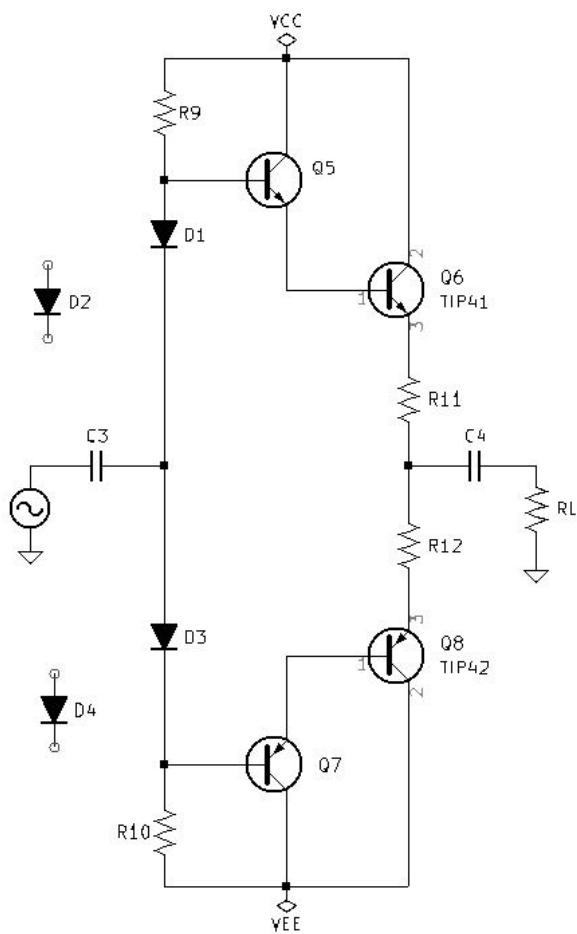

Figure 5.2: Push Pull Amplifier Cross-Over Distortion Test Circuit.
- (b) Build your calculated Push-Pull Amplifier with D2 and D4 removed from the circuit. Also, replace RL with a $10K\Omega$ resistor. See Figure 5.2 *Push Pull Amplifier Cross-Over Distortion Test Circuit*. on page 53.